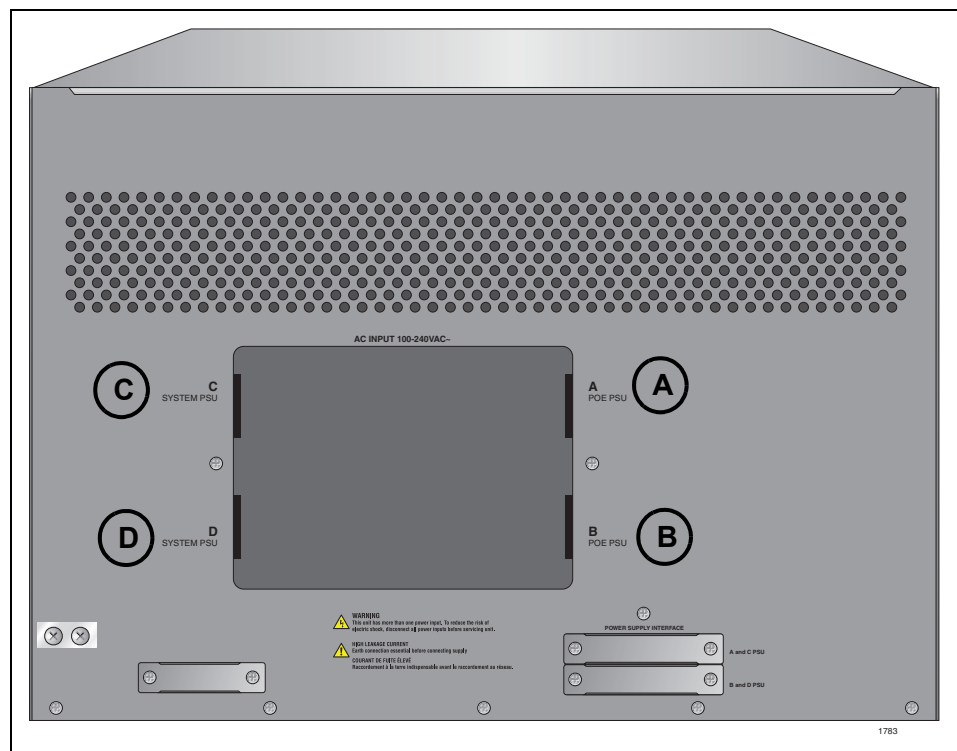

Figure 56. AC Sockets on the AT-SBx3112 Chassis Rear Panel
1. Locate the AC sockets on the back of the AT-SBx3112 Chassis as displayed in Figure 56. The sockets are labeled A to D. They correspond to the power supply slots on the front panel.